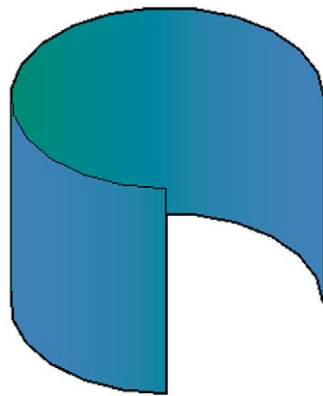

Fig. 14.34 Second example – 3D Surface
2. In the **3D Manager/SW Isometric** view, call the **Extrude** tool and extrude the part circle to a height of **80**. Shade in the **Conceptual** visual style (Fig. 14.34).
The result is shown in Fig. 14.34.